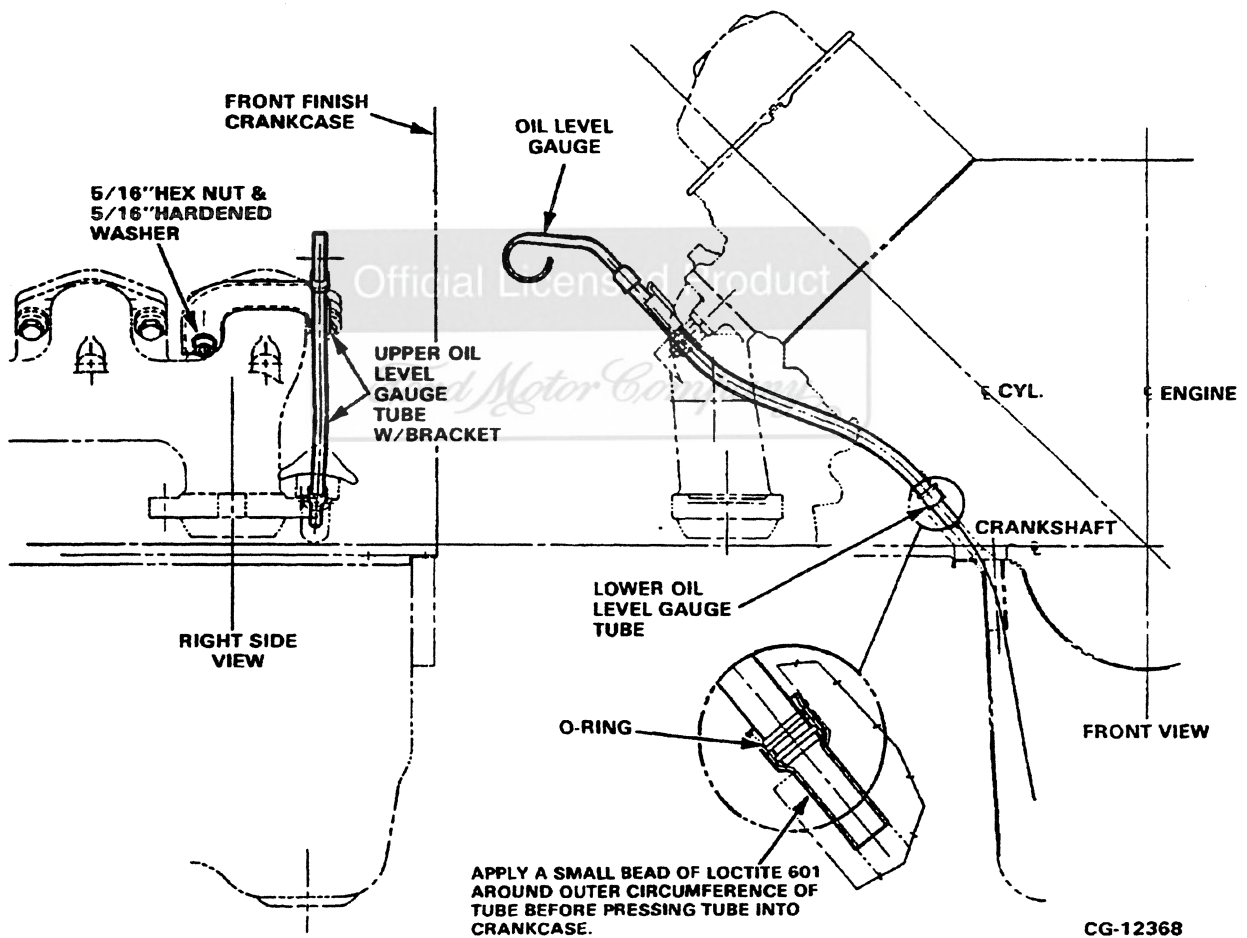

Figure 6.39. Oil Level Gauge Tube Assembly (Removal & Reassembly)
#### ■ Removal (Refer to Figure 6.39)
**NOTE:** If the lower oil level gauge tube must be replaced, remove the tube by driving it out of the crankcase with a 5/16" x 3" bolt. Thoroughly clean the crankcase mating surface. Apply a small bead of Loctite 601 around the outer circumference of the lower tube. Press the new lower tube into the crankcase, as shown in Figure 6.39.